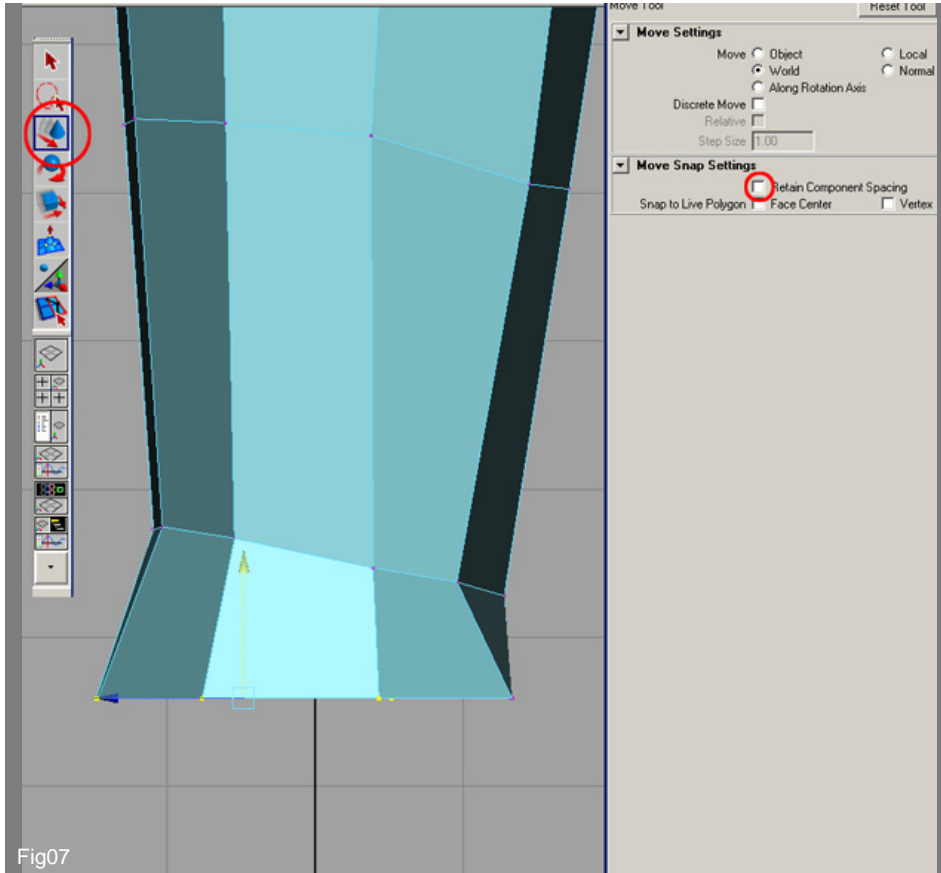

Fig07
7. We're going to align all the vertices horizontally. Double click on "Move Tool" from the "Tool Box" and make sure you un-check "Retain Component Spacing" shown in Fig07. Then select all the verts from the foot, except the lower one, and move them downward by keeping the "v" key pushed down while you drag, in order to snap the verts to the point. They all should be aligned now.